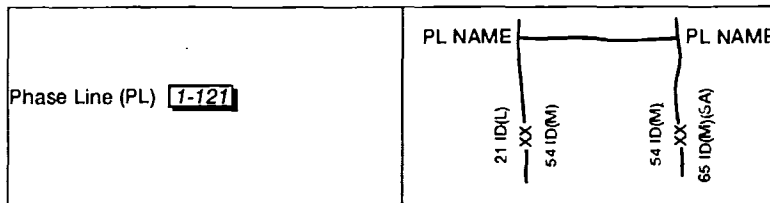

Figure 071-332-5000-21. Phase Line
(4) Initial delay position (IDP). An IDP is where a delaying action begins, trading space for time. The delay sector is defined by boundaries. The initial and all subsequent delay positions can be related to a time-phased forward edge of the battle area (FEBA). The initial and subsequent delay positions are specified, and PLs may be used to report the progress of the battle. The enemy is held forward of delay lines until the specified time or until permission is granted to withdraw. The initial and successive delay positions are shown on boundaries by coordination points with a solid line between them. Although most IDPs are given a code name, they may have a number, letter, or a variety of code names. The letter abbreviation (IDP) can be to the flank of the coordination symbol (when at the flank, it is in parentheses) or on the line itself. Its time phase is indicated as a date-time group having a two-digit day and a four-digit hour, both connected. The month indicator can be a three-letter type or spelled out, depending upon the desires of the commander. The letters IDP should be placed in parentheses between the line code name, letter, or number and the date-time group (figure 071-332-5000-22).